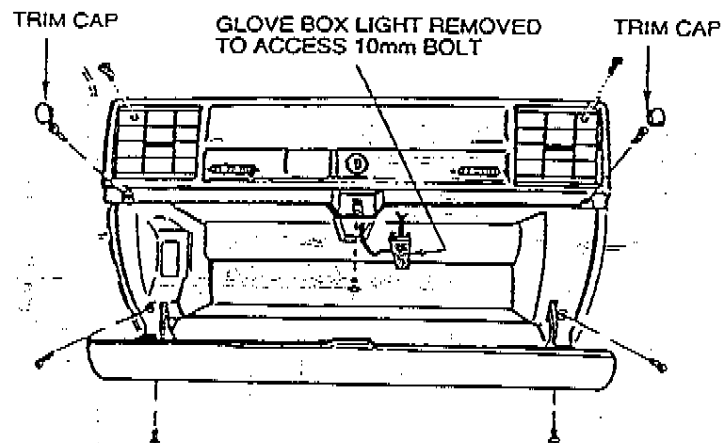

FIGURE 2
1. See Figure 2 . Remove the single screw behind each of the vent diffusers above glove box. Open glove box door and carefully remove the two trim caps as shown. Remove the eight securing screws and single 10mm hex head bolt as shown.